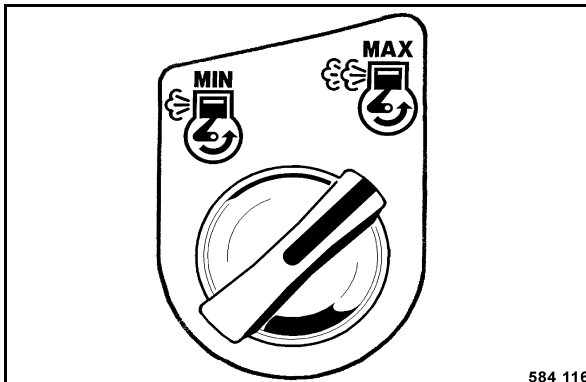

Fig. 94
- Turn the rotary switch (Fig. 94) for engine speed to position "MAX".